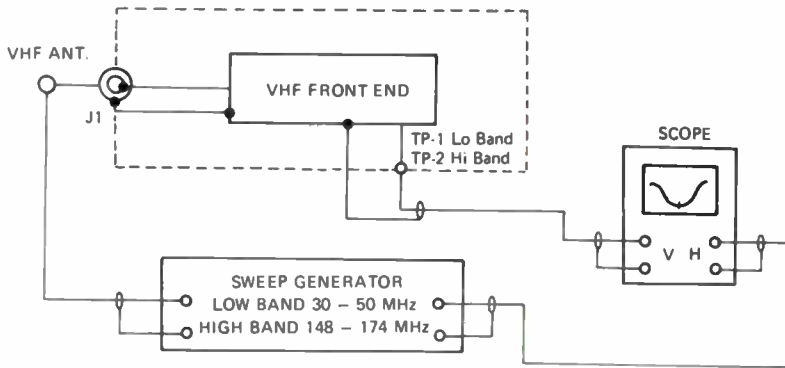

FIGURE 8
Step 1: Connect instruments as shown in Figure 8.